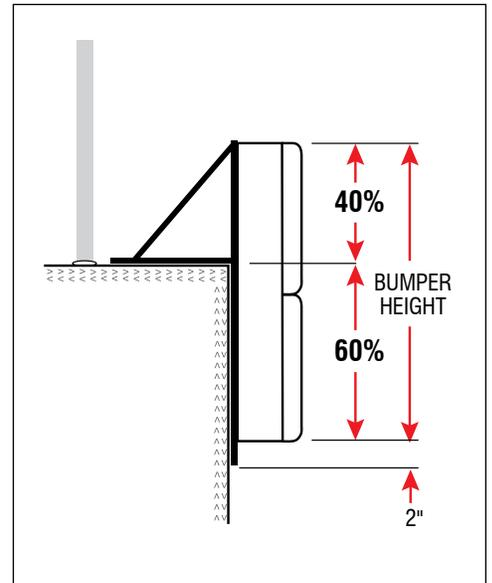

Figure 3
STEP 3: Choose the appropriate size dock bumper so that at least 60% of the entire height is "below dock". See figure 3.